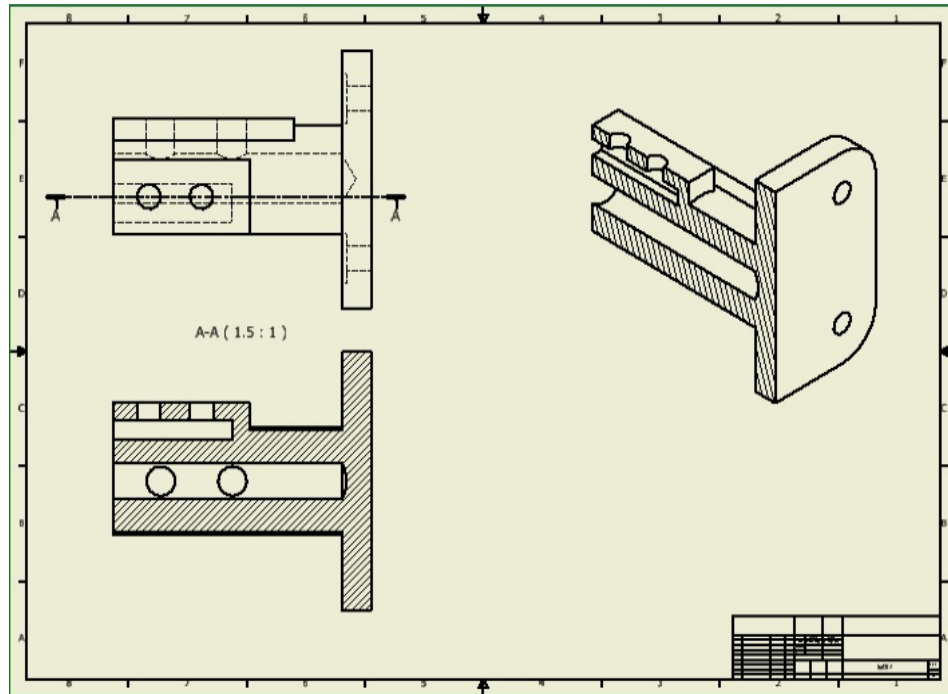

Figure 11-50 Drawing sheet after generating the isometric view of the model
3. Move the cursor toward the right of the section view and then move it upward until the preview of the isometric view appears. Now, specify the location of the view. Right-click on the view; a Marking menu is displayed. Choose **Create** from the Marking menu; the isometric view of the model is generated, as shown in Figure 11-50.